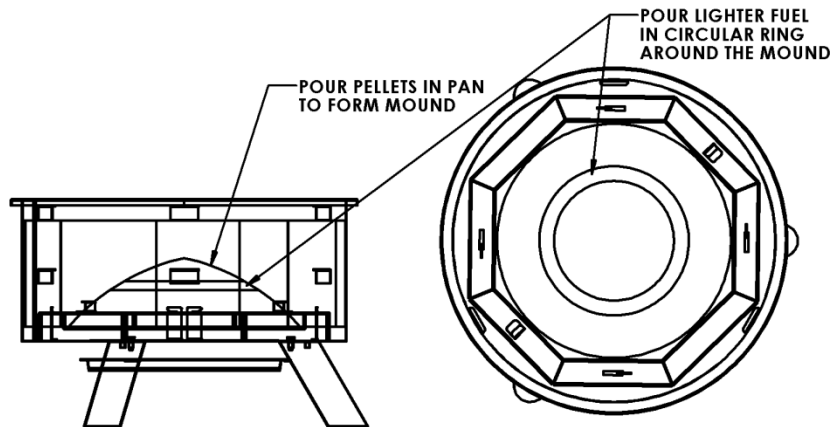

Figure 1
2. Pour pellets into the Pellet Pan Assembly and mound up as shown in Figure 1.